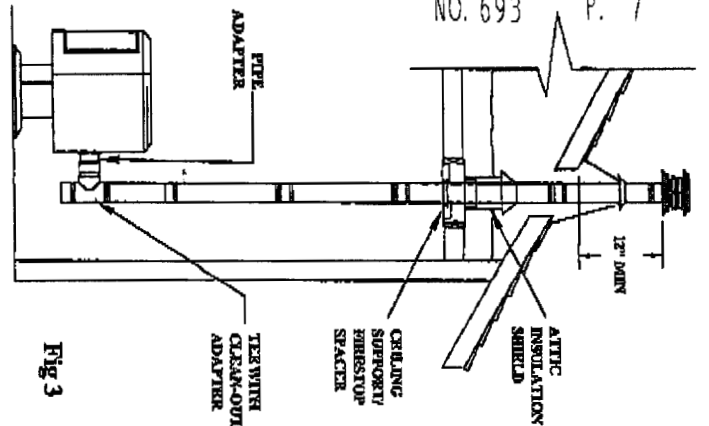

Fig 3
3. If the flue exits on back of stove and an interior installation is desired (Figure 3):